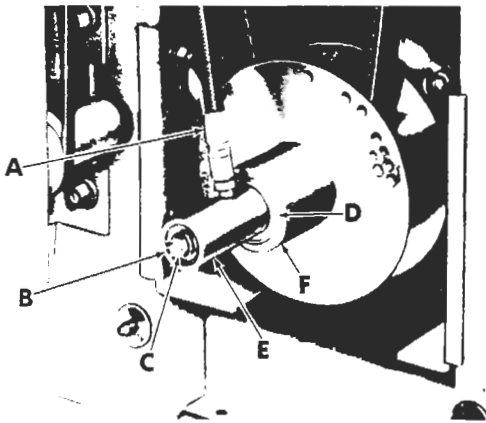

Figure 10
4. Measure distance from end of shaft (B, fig. 10) to nut (C). NOTE: Record this dimension.
5. Disconnect fitting (A) and drain oil from unit.
6. While holding shaft (B) with a socket set screw wrench, remove nut (C).
8. Pull hydraulic cylinder (E) and outer half of variable pulley (F) off the shaft (B).
9. Press hydraulic cylinder (E) with bearing (D) from variable pulley (F).